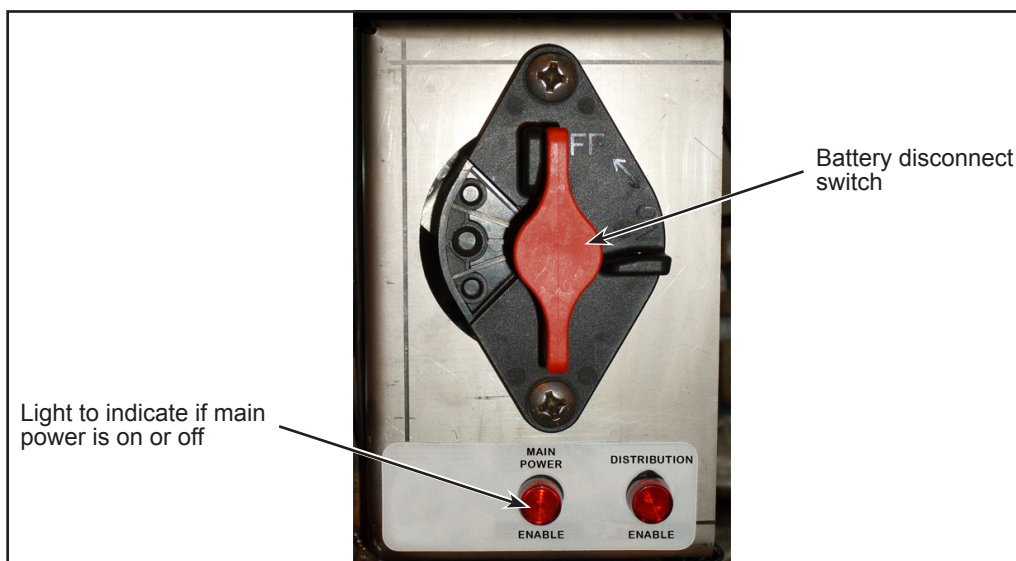

Figure 2 - Typical Battery Disconnect Switch
- 1.3. Open the battery compartment access door and turn the battery disconnect switch to the OFF position (see Figure 2).